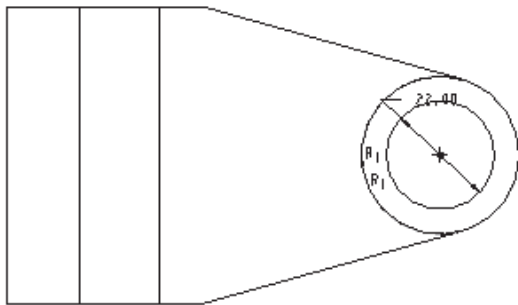

Figure 4-90 Sketch with dimensions and constraints
2. Draw the section sketch using various sketcher options and add the required constraints and dimensions to it as shown in Figure 4-90.